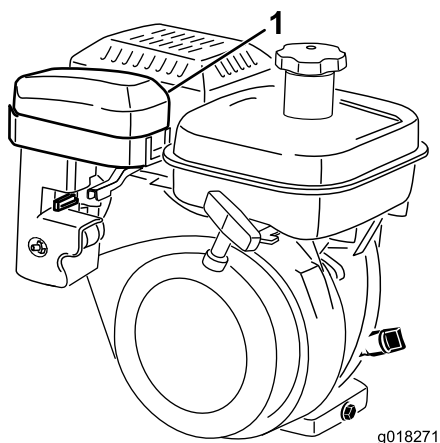
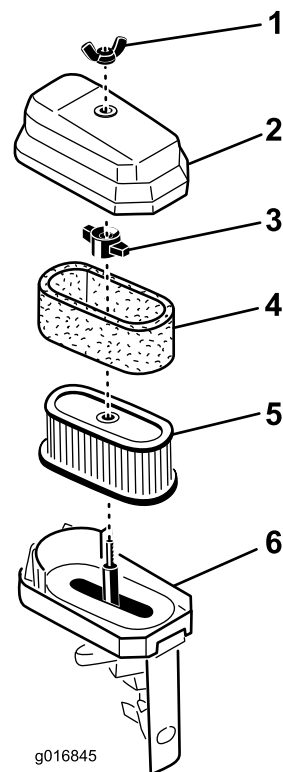

Figure 32
Figure 33
3. Clean the cover thoroughly (Figure 32 and Figure 33).
4. If the foam element is dirty, remove it from the paper element (Figure 33). Clean it thoroughly.